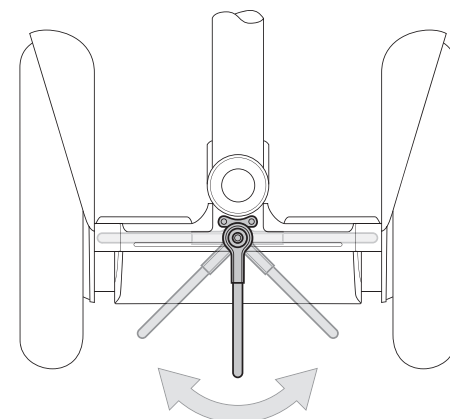

Figure 3. Deploying or Retracting the Parking Stand
4. To retract the Parking Stand, lean the PT back and pivot the spring upward using your foot. Ensure that you feel the pivot click into place. See Figure 3.